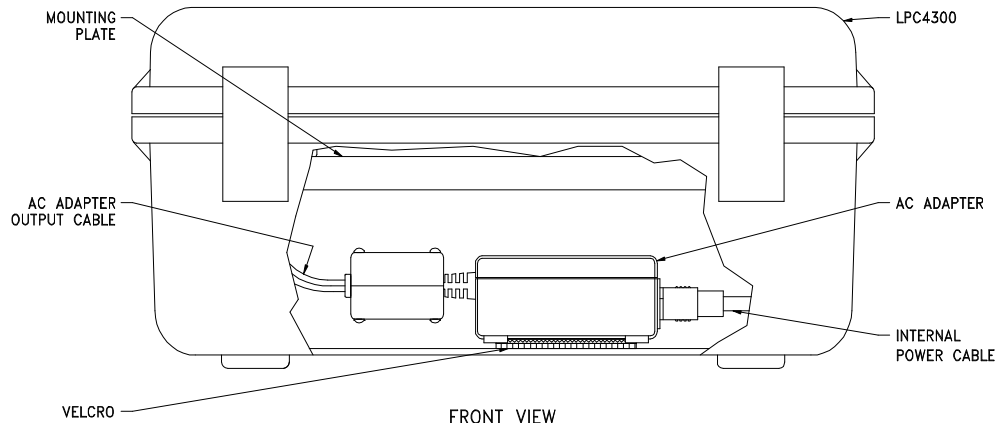

Figure 4.
4. Mount the AC adapter inside the bottom of the case as shown in Figure 4.